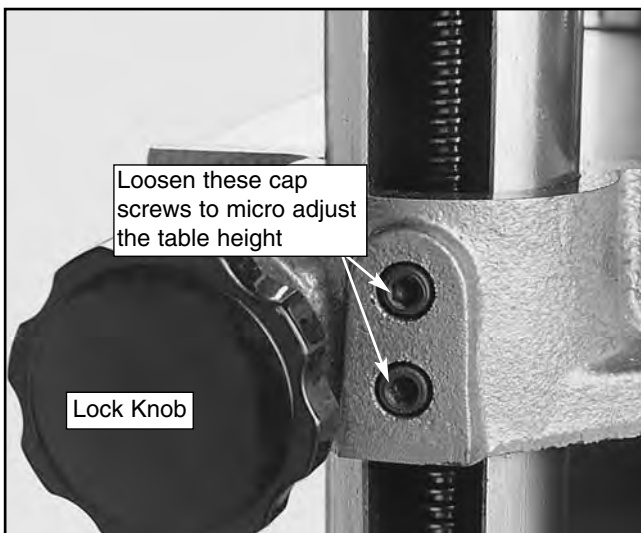

Figure 13 Cap screws for column adjustment.
2. Locate the two cap screws in the table casting for each of the columns. See **Figure 13**. Loosen both sets of cap screws for each column on the side you wish to adjust.